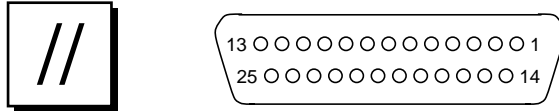

FIGURE 1-3 DB-25 Parallel Connector
- FIGURE 1-3 DB-25 Parallel Connector 1-3